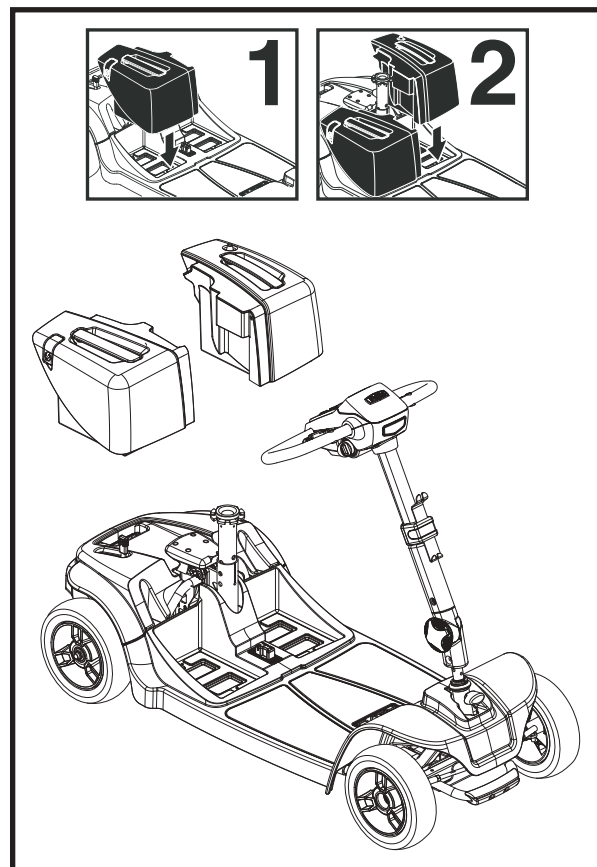

Figure 26. Battery Box Installation of models 66 and 67
12. Reinstall the battery packs onto the scooter and engage the battery pack locks. Always reinstall the right side battery pack first. See figure 26.